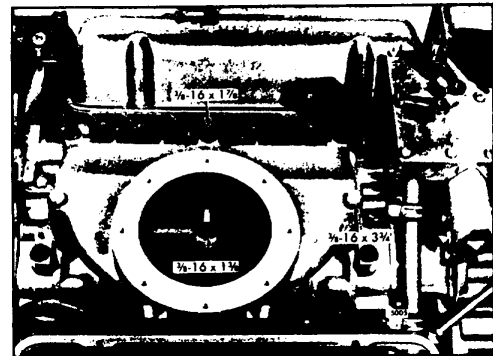

Fig. 2. - Location of Air Shut-Down Housing Mounting Bolts (6VEngines)
4. Note the position of the air shut-off valve spring and the valve (Fig. 2); then withdraw the shaft from the housing to release the valve and the spring. Remove the valve and spring and the seal ring from the housing.